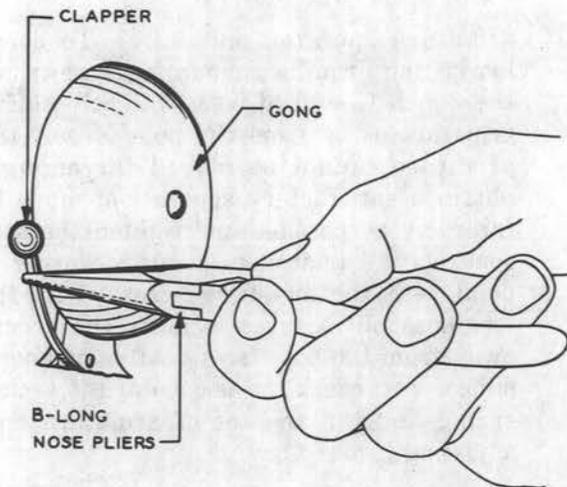

Fig. 5—Method of Adjusting for Clapper Movement
(9) If, after the bell has been adjusted, the tone is still unsatisfactory with the cover mounted in place, it may be due to the clapper striking the edge of the cover. If this occurs, adjust per 3.03.
(10) If the armature vibrates satisfactorily, but the clapper does not strike the gong, adjust the clapper as required with the B long-nose pliers as shown in Fig. 5.